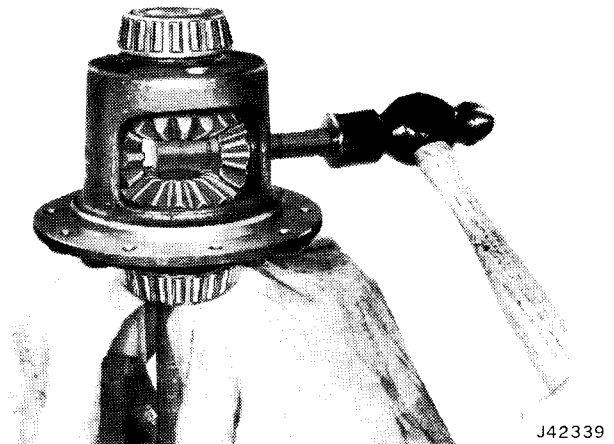

Fig. 10-78 Installing Pinion Mate Shaft
(17) Remove forcing screw, rotating tool, and step plate.
(18) Lubricate pinion mate shaft and install in case using hammer. Be sure snap ring grooves of shaft are exposed to allow assembly of snap rings (fig. 10-78).
(19) Install snap rings.